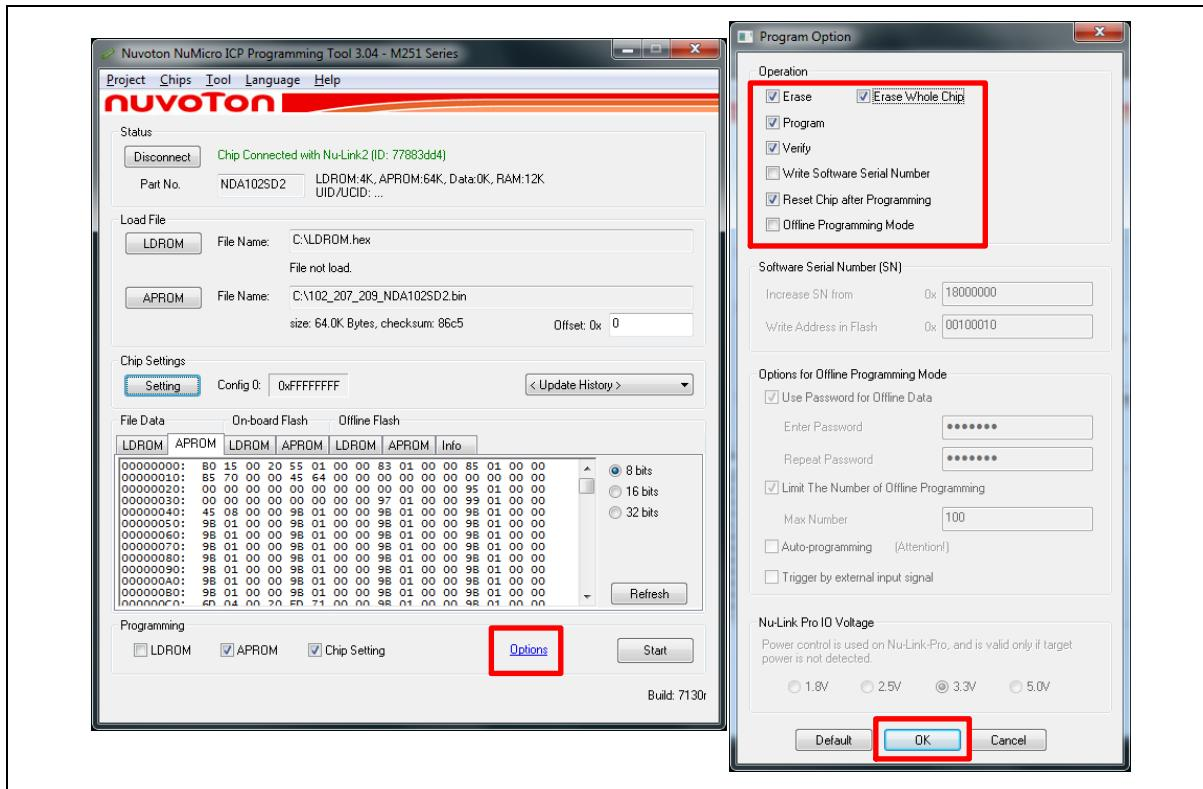

Figure 5-23 Default Options Setting
4. Check the “Options” setting. The default setting for Nuvoton DALI project is shown as Figure 5-23.